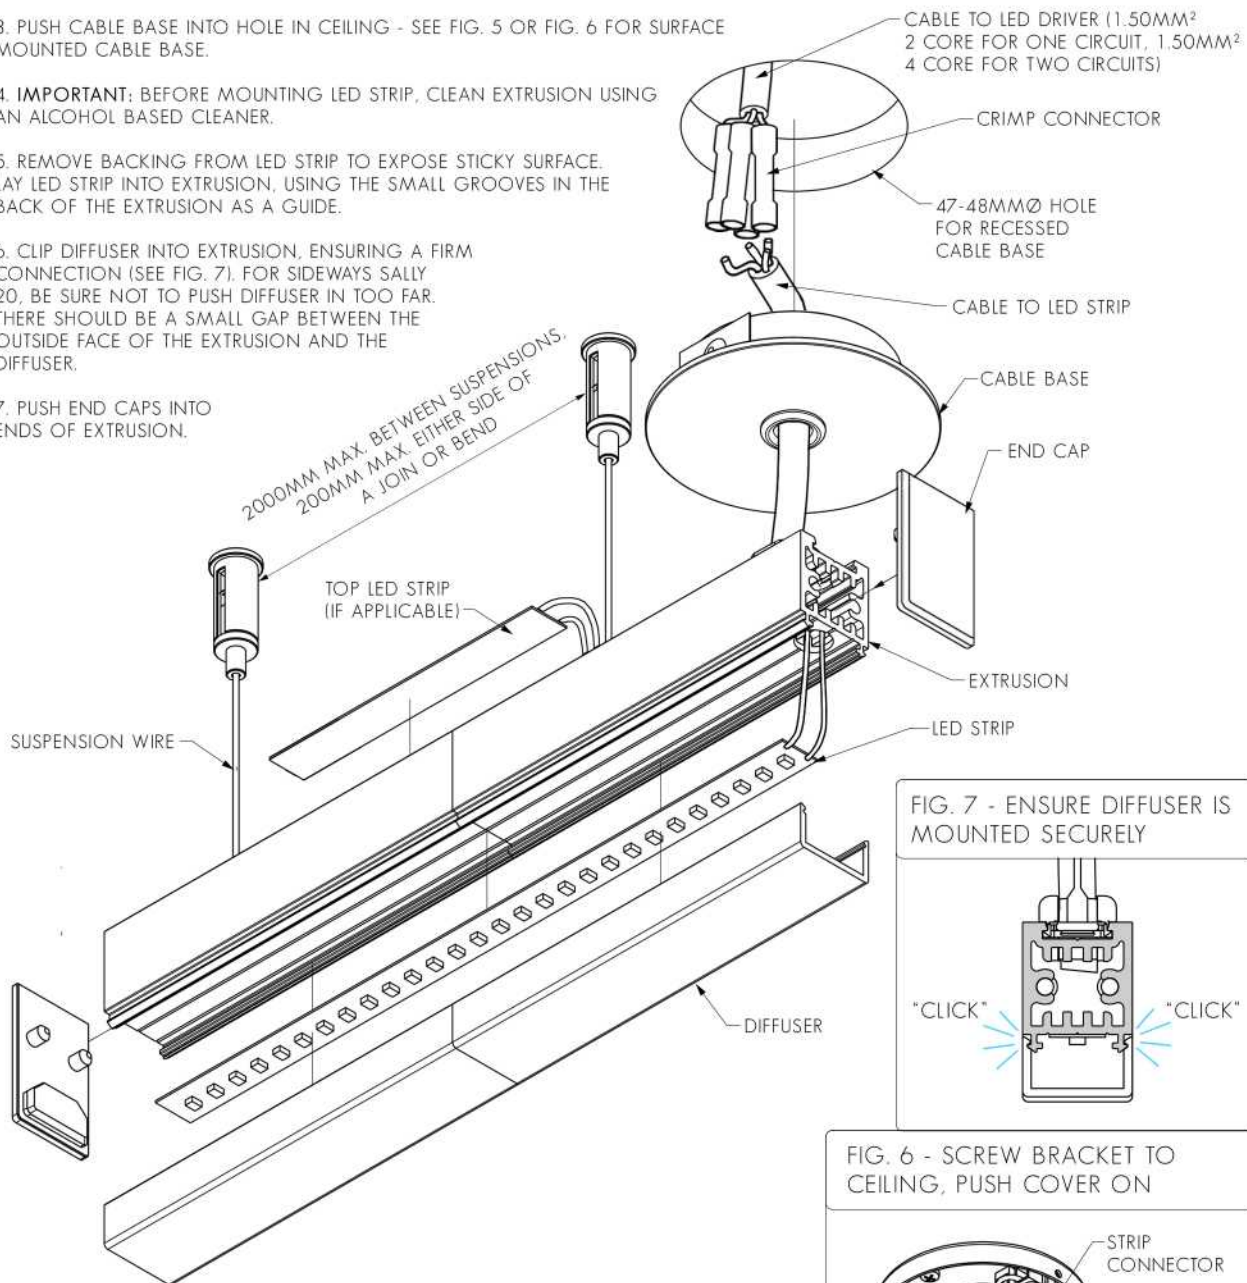

FIG. 7 - ENSURE DIFFUSER IS MOUNTED SECURELY
6. CLIP DIFFUSER INTO EXTRUSION, ENSURING A FIRM CONNECTION (SEE FIG. 7). FOR SIDEWAYS SALLY 20, BE SURE NOT TO PUSH DIFFUSER IN TOO FAR. THERE SHOULD BE A SMALL GAP BETWEEN THE OUTSIDE FACE OF THE EXTRUSION AND THE DIFFUSER.